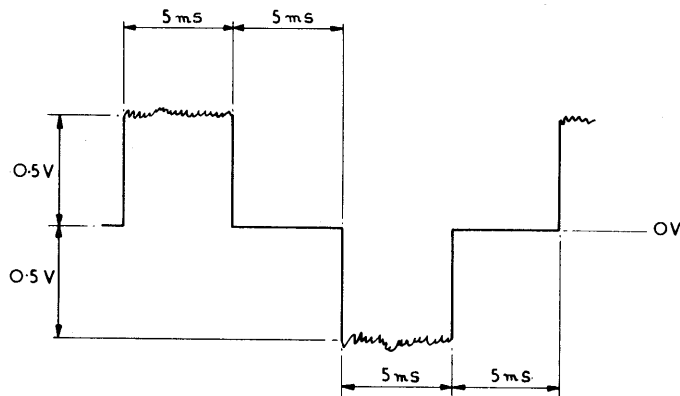

Fig. 2 - Typical Chopper Waveform
- (a) With the test set connected as in 5.2, switch SWF to position 3, monitor the test point, SKE, with the oscilloscope on the 1 volt/cm. a.c. range. Check that the chopper waveform is stable and set the chopper signal for zero d.c. component by adjusting RV1 on the front panel of the amplifier (See Fig. 2).